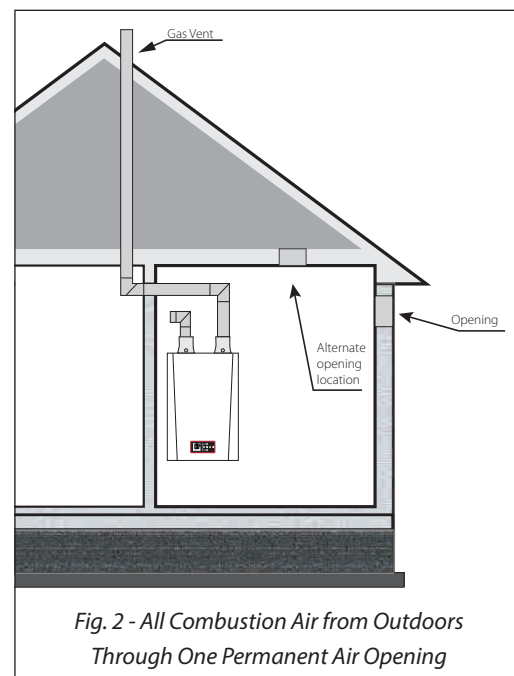

Fig. 2 - All Combustion Air from Outdoors Through One Permanent Air Opening
- **One Permanent Opening Method.** One permanent opening, commencing within 12 in. of the top of the enclosure, shall be provided as shown in **Fig. 2 below**. The equipment shall have clearances of at least 1 inch from the sides and 6 in. from the front of the appliance. The opening shall directly communicate with the outdoors or shall communicate through a vertical or horizontal duct to the outdoors or spaces that freely communicate with the outdoors and shall have a minimum free area of the following: